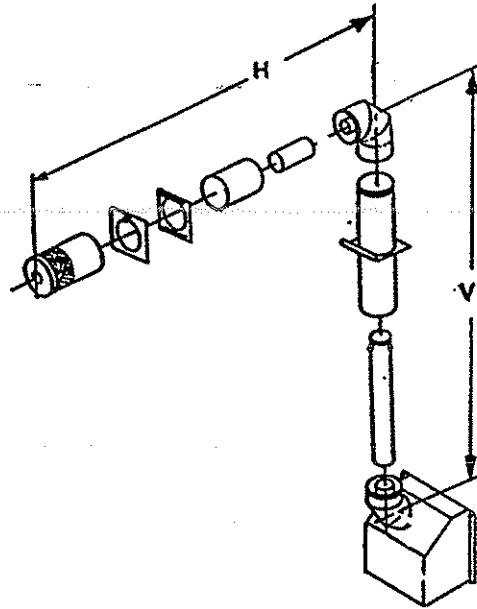

FIGURE 7
Figure 7 and Table 3 show examples of possible installations using one (1) 90-degree elbow and the 45-degree starter elbow pointing **UP**. Dimension V is listed as **MINIMUM** vertical dimensions and dimension H is listed as corresponding **MAXIMUM** horizontal dimensions. Vertical dimensions are based on centerline of pipe to centerline of pipe. Horizontal dimensions are based on centerline of pipe to end of termination. This vent system using one 90-degree elbow will result in a horizontal termination.